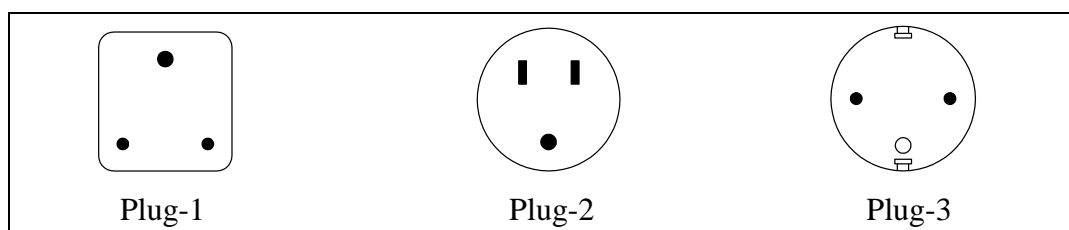

Figure 1. Line-Power Cord Types Available from SES
3. Connect the power cord to a properly grounded three-prong outlet. See Figure 1 for line-power cord types available from SES. Refer to Table 3 for description of the line-power cords.